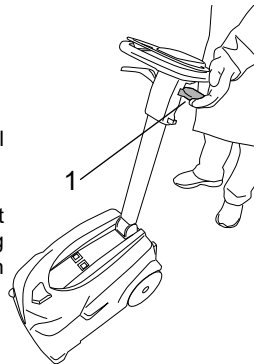

Fig.18
**This machine can dry the floor moving both forward and in reverse. To operate the drying function in reverse, pull the lever upwards (fig. 18, ref. 1).**